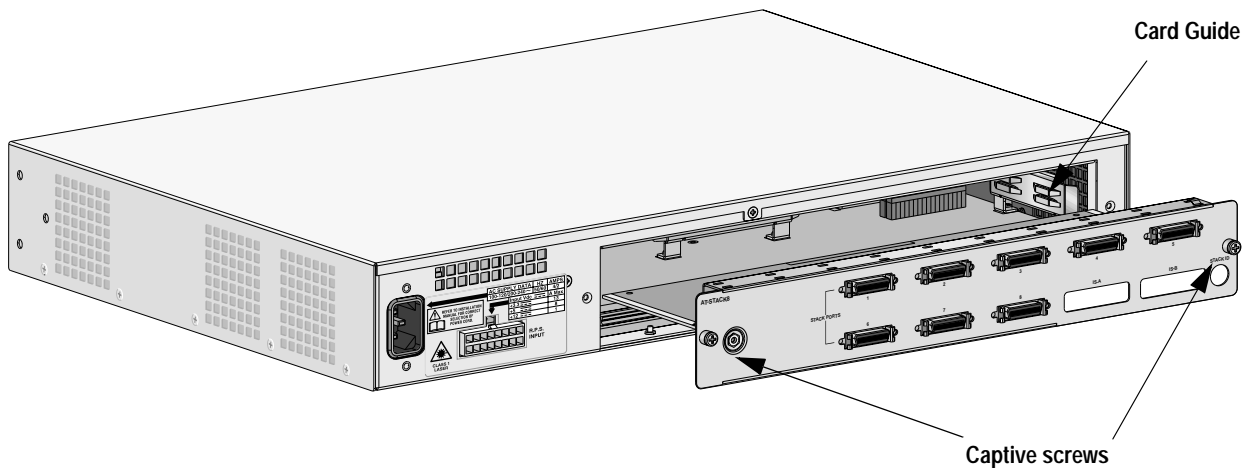

Figure 3-11 Installing the AT-Stack8 Module
8. Slide the AT-Stack8 module into the expansion slot making sure that the board is aligned properly with the card guides. Slide the board into the switch until it snaps into place. Refer to Figure 3-11.